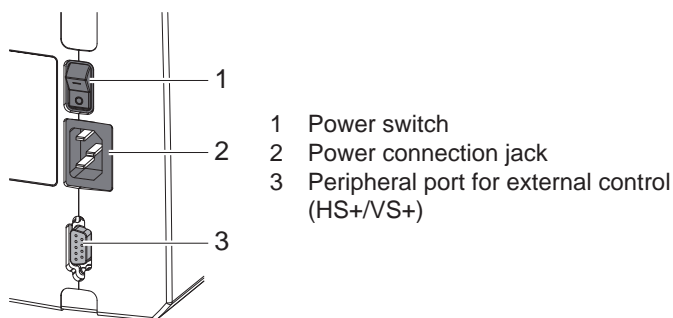

Fig. 3 Connections
2. Connect the external control to the 9 pin SUB-D connector of the peripheral port (3 / Fig. 3):
- ▶ Switch the device on at the power switch (1 / Fig. 3).
► Switch the device on at the power switch (1 / Fig. 3).